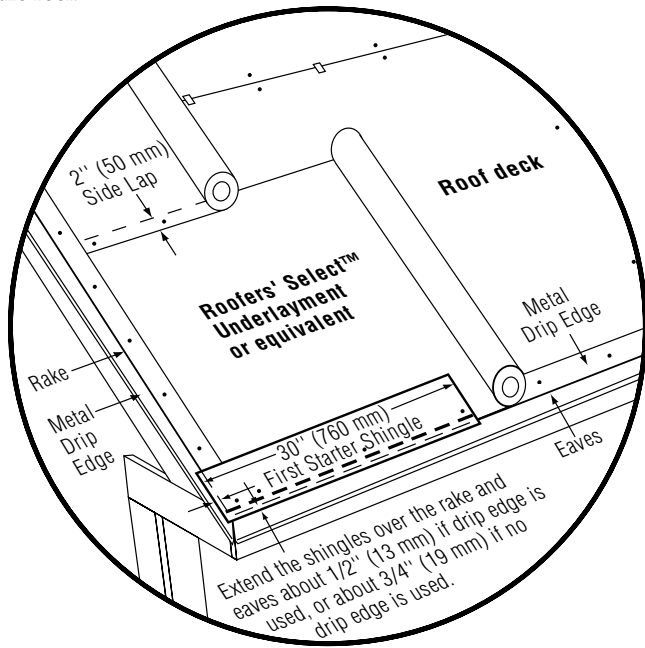

Figure 12-7: Standard slope underlayment and starter drip edge details.
3. Continue with full-length starter course shingles along the eaves (Figure 12-7).
2. Cut 5" off the length of the first starter strip and apply the resulting 31" piece at the lower left corner of the roof. This starter strip should overhang the rakes and eaves 1/2" when drip edge is used, or 3/4" when no drip edge is used (*Figure 12-7*).